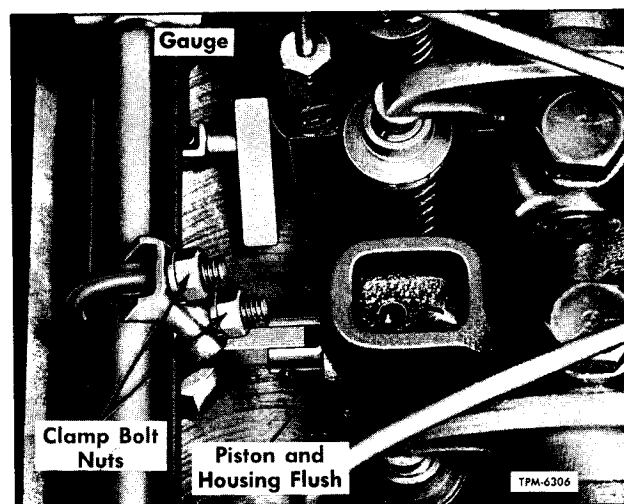

Figure 7—Throttle Delay Adjustment
The following instructions outline a procedure to follow when adjusting the throttle delay cylinder. Refer to figure 7.
3. Temporarily install a gauge between injector body and shoulder on injector rack (fig. 7). Gauge is .404" (approx. $1\frac{3}{32}$ ") thick and can be made locally.
Remove the radiator test cock or convenient plug opening that will permit installation of 0-15 pressure gauge (fig. 7).